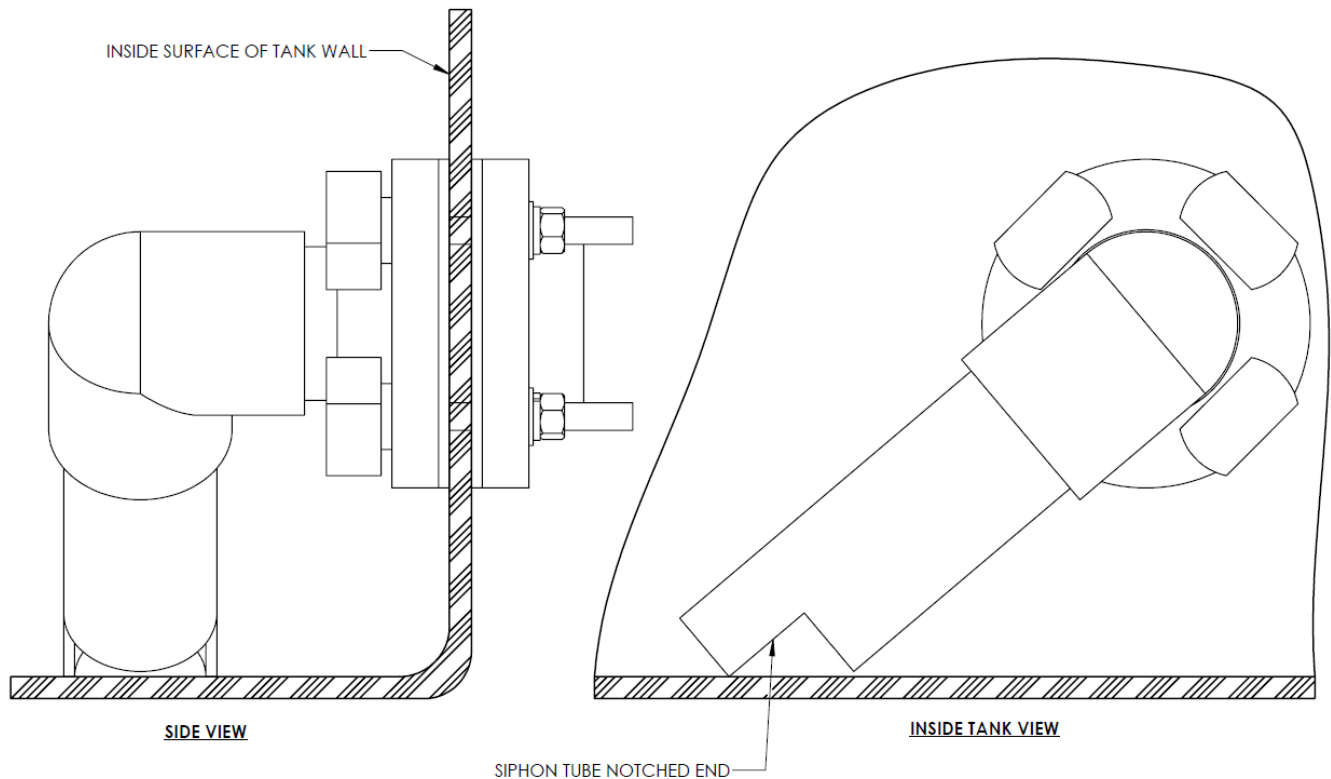

Figure 6.7
6.7.3 Siphon tubes should be located with the cut notch corner in close proximity of the floor of the tank for maximum drainage, and the siphon tube tilted to the side of the fitting. Refer to Figure 6.7 for proper placement of the siphon tube in the tank.